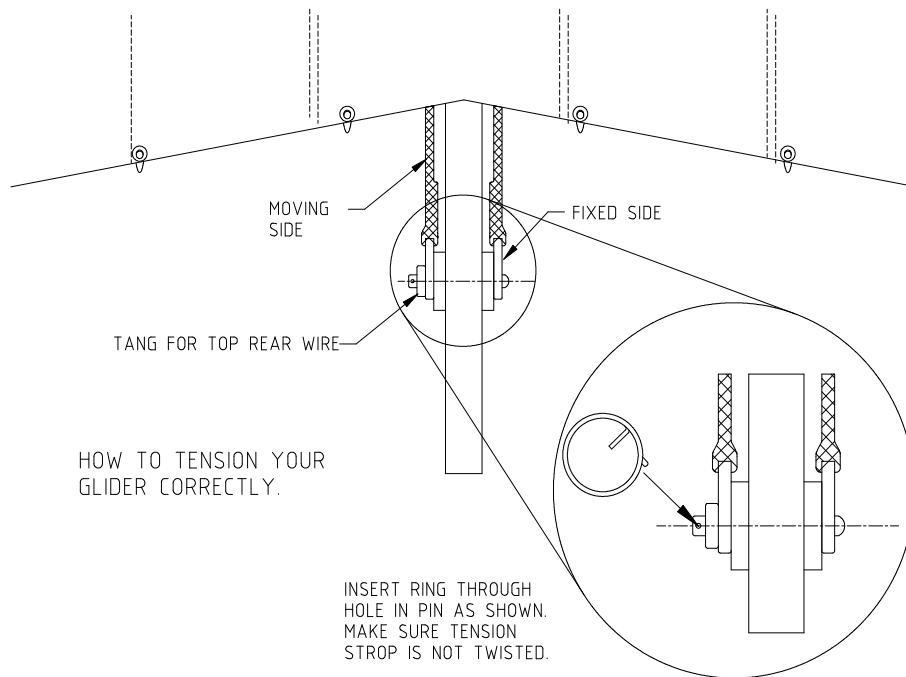

Figure 1: Tensioning the glider
FIGURE 1: TENSIONING THE GLIDER.....	7
13. The glider can now be tensioned. Remove the split ring from the special bolt located through the rear of the keel tube. Using the attached cords initially and then holding the webbing, pull the cross tube restraint webbing back. Check that the cords are not twisted. Locate the stainless tang over the stub of the bolt and slide into location closest to the keel. Now take the rear top wire (from the kingpost), place tang onto bolt stub and replace the split ring. **PUT THE RING IN IMMEDIATELY. DO NOT LEAVE IT UNTIL LATER.** If the tension feels too tight stop and see what is causing the problem. **DO NOT JUST FORCE IT.** (Consult the trouble shooting area of this manual for possible causes. See Figure 1)